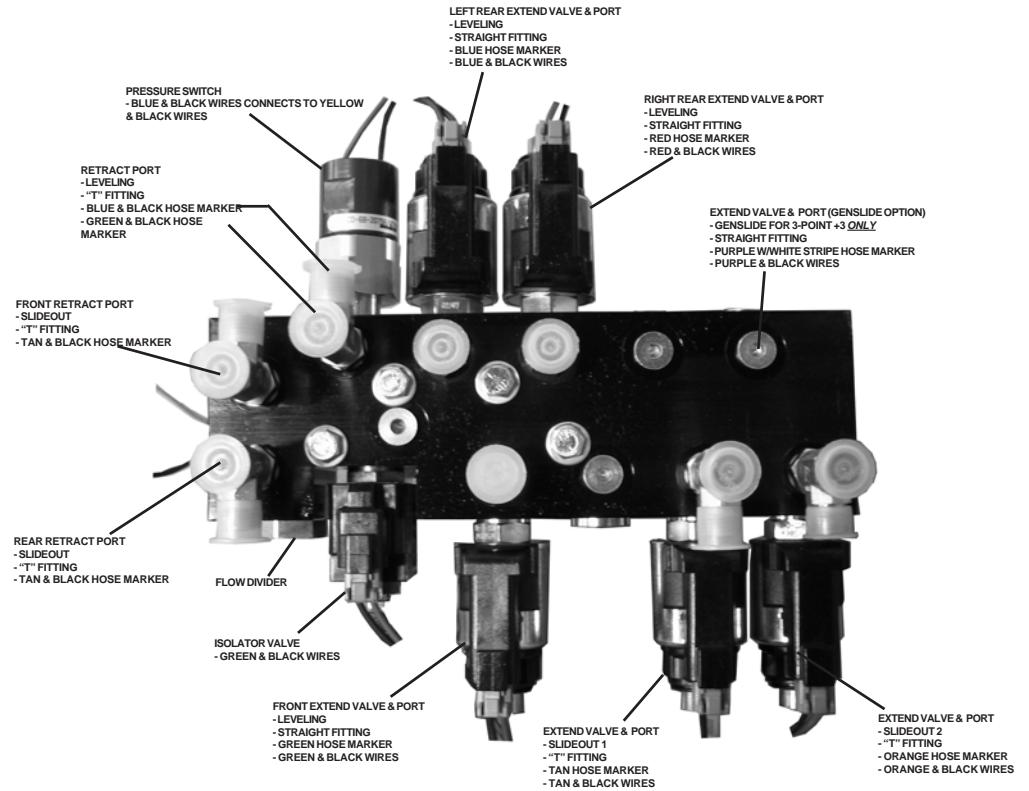

Fig. 9
- A. Locate all Valves that operate the Leveling Jacks and the Slideout. There will be four (4) Leveling Jack Valves and one (1) Slideout Valve. The Slideout Valve will have two (2) Black Hoses entering the port whereas the Leveling Jacks will only have one (1) Black Hose each. Fig. 9.